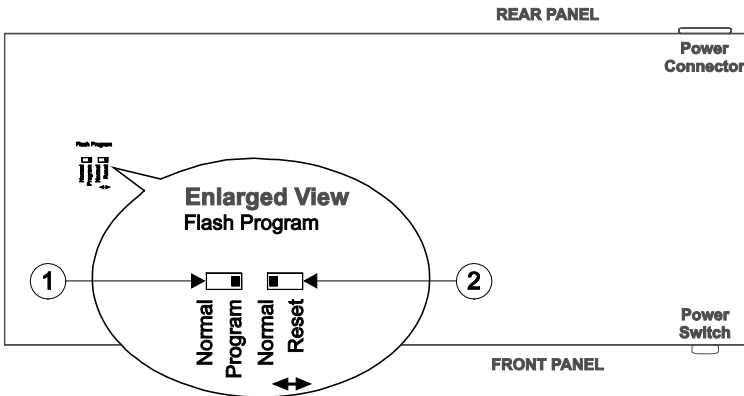

Figure 13: VP-1608 Underside Flash Program Switches Set for Upgrade
1. Connect the *RS-232* 9-pin D-sub (F) rear panel port on the **VP-1608** unit to the null-modem adapter and connect the null-modem adapter with a 9-wire flat cable to the *RS-232* 9-pin D-sub (F) COM port on your PC (see section 6.2).
3. Set the underside Flash Program switches (see Figure 13), as follows: